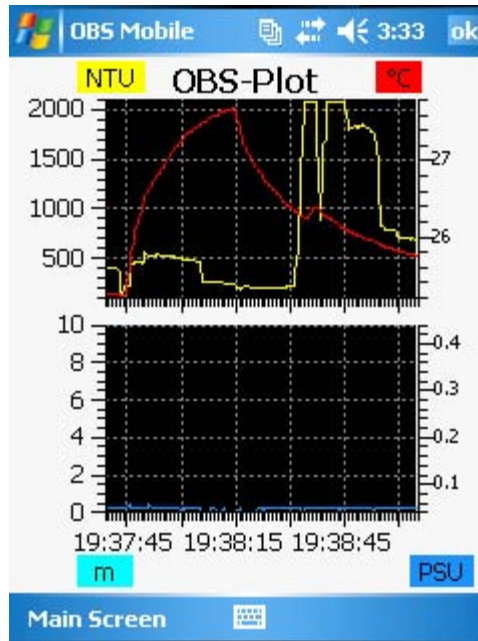

FIGURE 1-7. Test Data Sample
2. Wave your hand in front of the OBS sensor; the turbidity signal on the top plot of FIGURE 1-7 will fluctuate and data will scroll.
3. Blow on the temperature sensor to observe an increase in temperature (red trace on the middle plot of FIGURE 1-7).
4. Dip the pressure sensor in water and a small elevation in the pressure signal will occur (bottom plot of FIGURE 1-7).